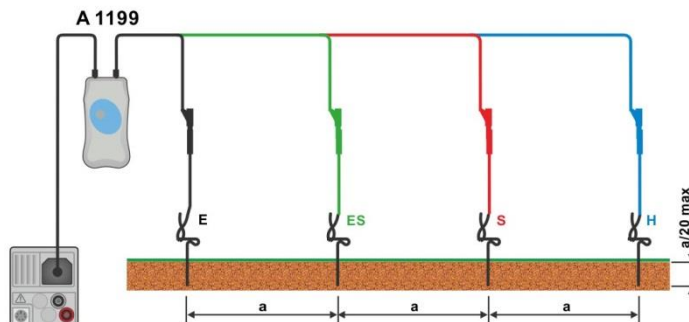

Figure 7.66: Specific earth resistance measurement
- › Connect test leads to earth probes, see **Figure 7.66**.